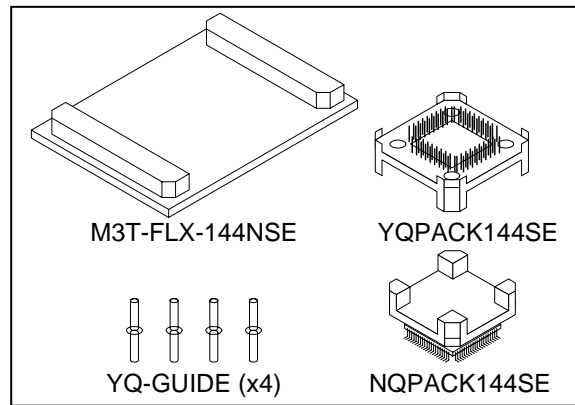

Figure 1 Package components of the M3T-FLX-144NSE
2. Package Components (See Figure 1)